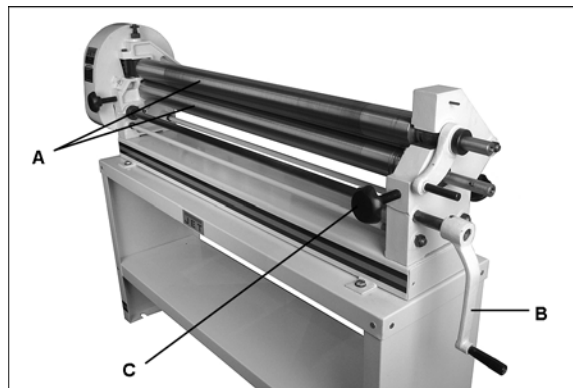

Figure 1
1. The two front rolls (A, Figure 1) carry the material through as the crank handle (B) is turned in a clockwise direction.
2. The lower roll adjustment knobs (C) are used to move the lower roll up and down for different gauge material.